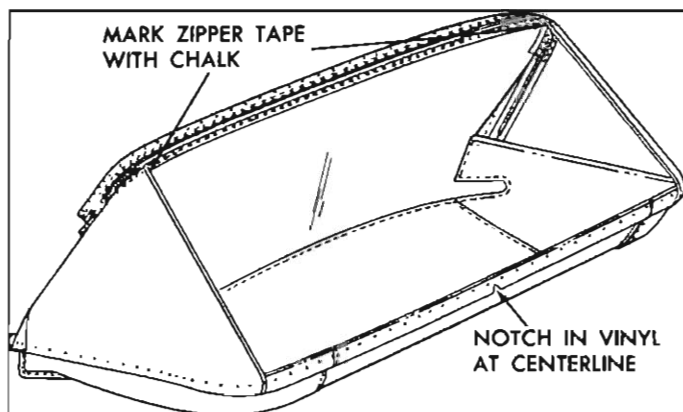

Fig. 64—Marking Zipper Tape
13. Using chalk or similar material, mark zipper tape at upper edge of vinyl (fig. 64).
NOTE: Notch in back curtain vinyl at lower edge indicates centerline of back curtain assembly (See Fig. 64). In addition, back curtain lower edge should extend 1/2" below lower edge of trim sticks.